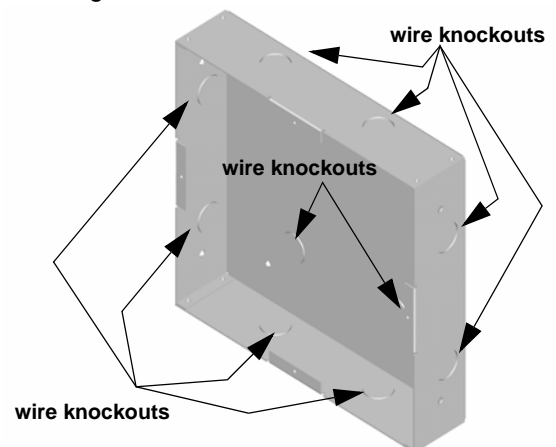

Figure 3: Backbox Knockout Locations
2. Remove knockout holes as needed for wiring. See Figure 3 for backbox knockout locations
1. Remove the desired knock out. See Figure 3.